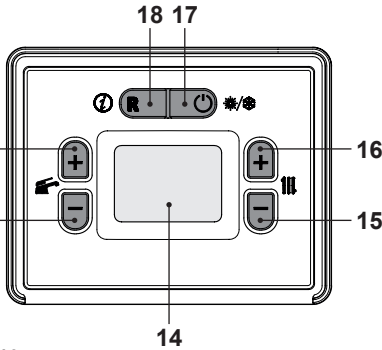

Fig. 7.10
- Press and hold the 17 key until both  and  symbols appear on the display Fig. 7.10.
- Switch off the boiler by pressing the 17 (Fig. 7.10) key for 5 seconds until the  symbol appears on the LCD display (Fig. 7.9).
- Press the 17 key for 5 seconds until both  and  symbols appear on the display Fig. 7.10.
Press the reset key on the boiler control panel 18 (Fig. 7.10) to reset its functioning.